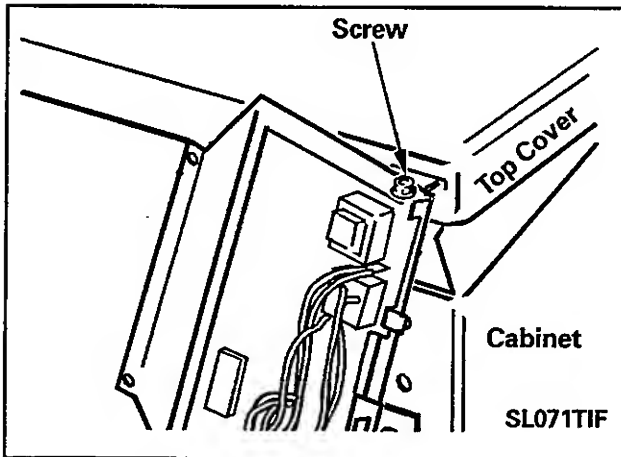

Figure 9-10
9. To secure the machine control board assembly in place for testing purposes, place a screw through the cabinet bracket flange after the control board assembly is positioned onto the cabinet bracket flange (*Figure 9-10*).